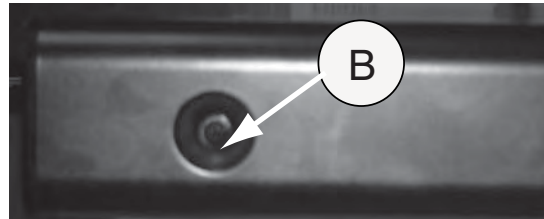

Figure 2
- 1 screw "B" each on the left & right side as shown in figure 2.